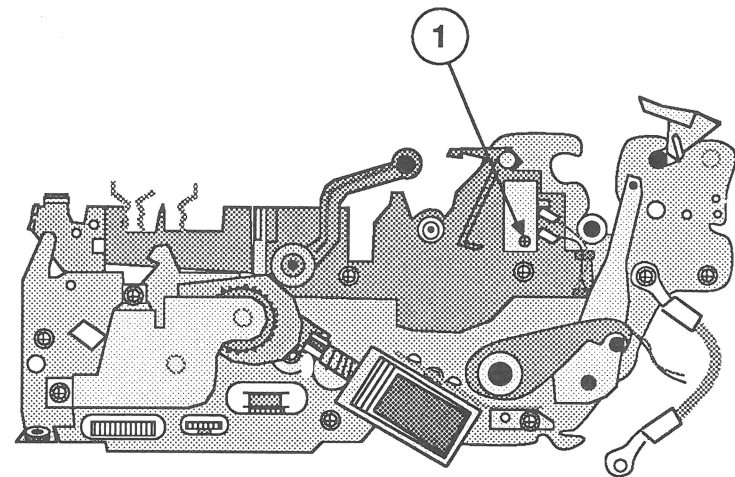

FIGURE 38
- 2. Remove the Phillips screw that secures the cut sheet feeder switch to the paper bail/platen bracket (Figure 38, #1).